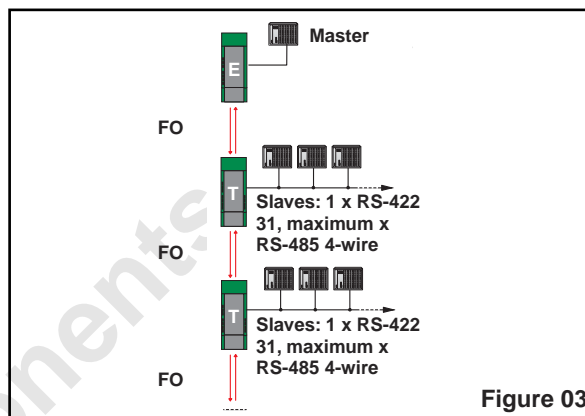

Figure 03
2.2 Linear Structures (Figure 03)
A fiber optic linear structure (Figure 03) can be used to network several RS-422/RS-485 4-wire devices to form a master/slave structure. In this case, it must be possible to address all termination devices via communication software. **PSI-MOS-RS422/FO ... E** termination devices are used at the beginning and end of the fiber optic line, while **PSI-MOS-RS422 FO ... T**-couplers with 2 fiber optic channels are used along the line.